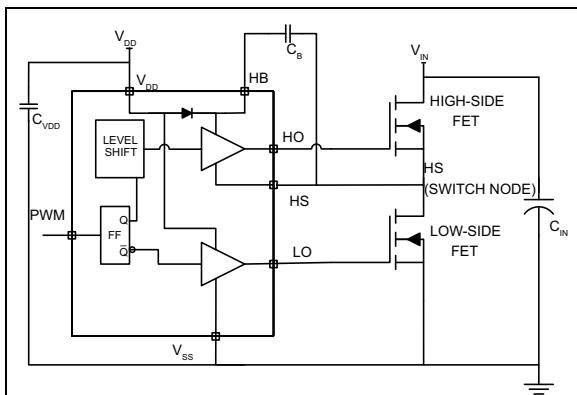

**FIGURE 6-6:** Turn-Off Current Paths.
Figure 6-6 shows the critical current paths when the driver outputs go low and turn off the external MOSFETs. Short, low impedance connections are important during turn-off for the same reasons given in the turn-on explanation. Current flowing through the internal diode replenishes charge in the bootstrap capacitor,  $C_B$ .
- Trace out the high  $d_i/d_t$  and  $d_v/d_t$  paths, as shown in Figure 6-5 and Figure 6-6 to minimize the etch length and loop area for these connections. Minimizing these parameters decreases the parasitic inductance and the radiated EMI generated by fast rise and fall times.